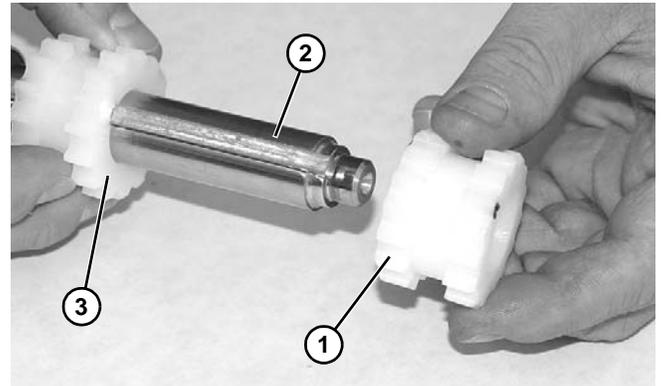

Figure 71
2. Install required quantity of free moving sprockets (**Figure 71, item 1**) onto drive pulley (**Figure 71, item 2**).
3. Install fixed sprocket (**Figure 71, item 3**) at the same location it was removed, making sure it engages the belt. Tighten set screw.